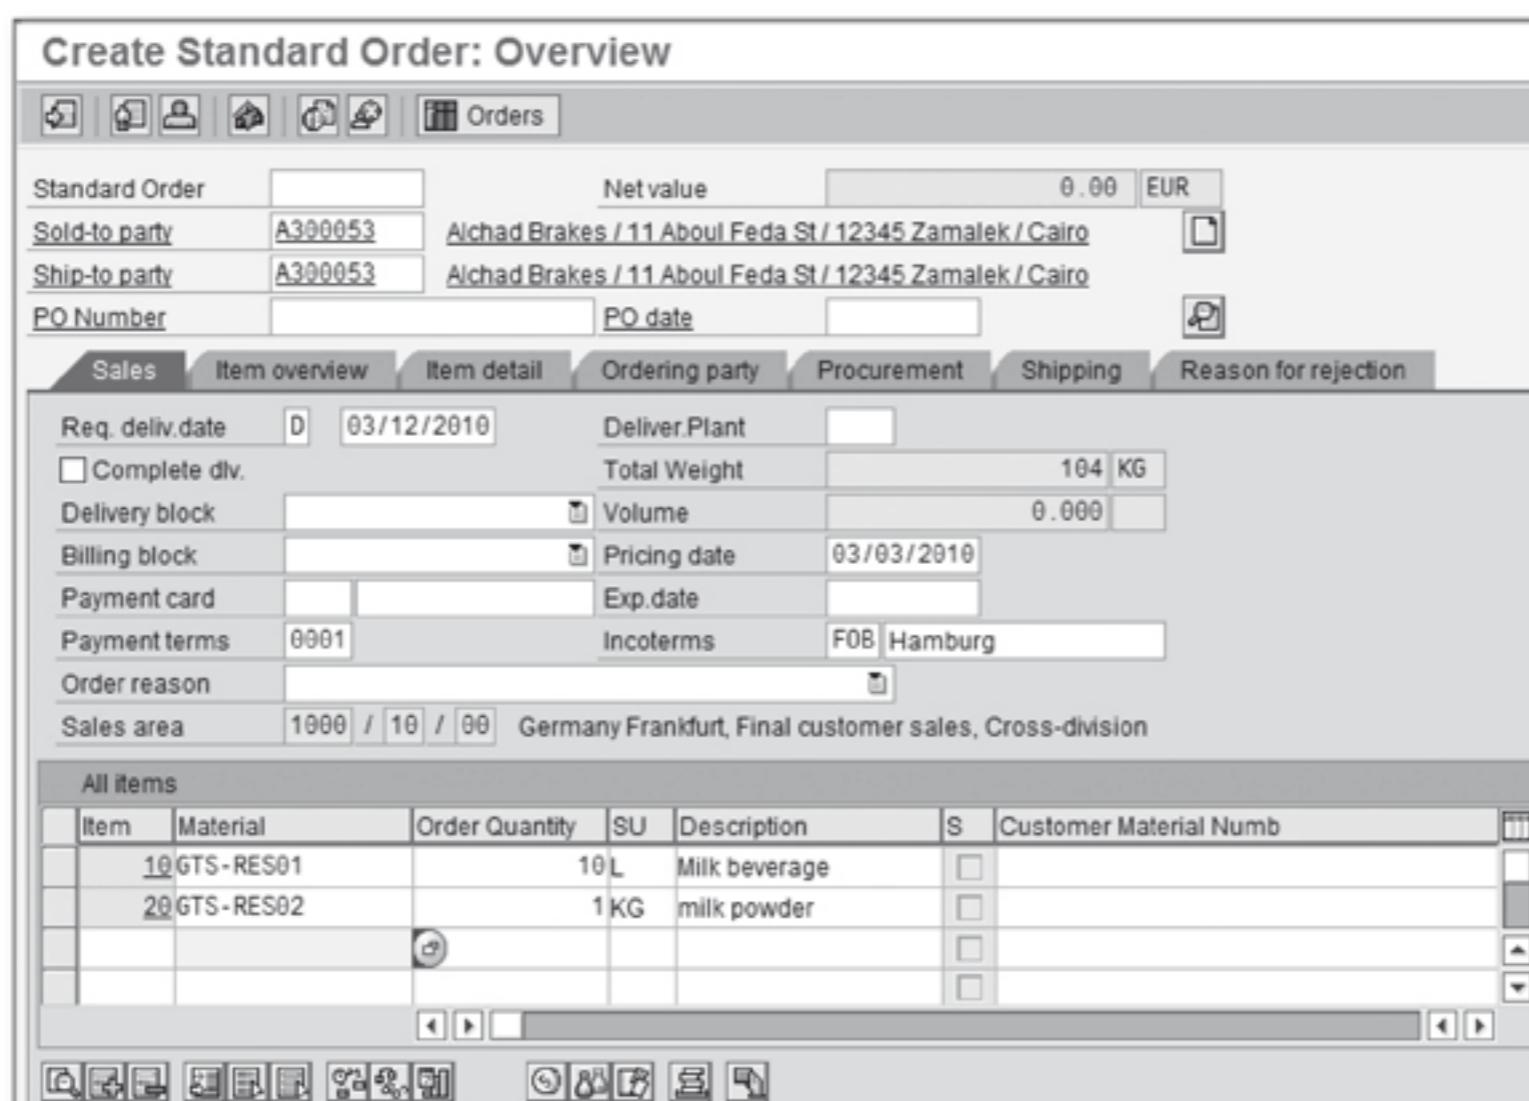

Figure 3.16 Create Standard Order – Item Proposal Completed
6. The result is that the items you included in the item proposal are brought over to the sales order, as you can see in Figure 3.16 (both items came from the example setup in Chapter 2).